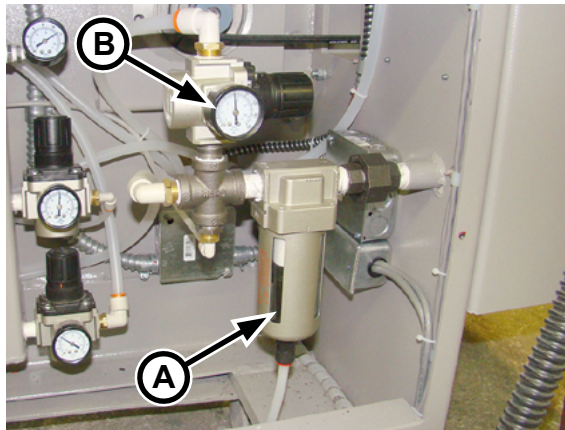

Figure 4-5: Check the air filter/regulator for dirt and condensate accumulation.
The combination air filter with automatic drain unit (Figure 4-5, A) located inside the ironer, should be inspected on a weekly basis.
2. Wait a few seconds and then, open the ironer's the left endframe door. Check the O.P.L. incoming air pressure gauge (Figure 4-5, B) and make sure it is set to 80 psi (550 kPa).